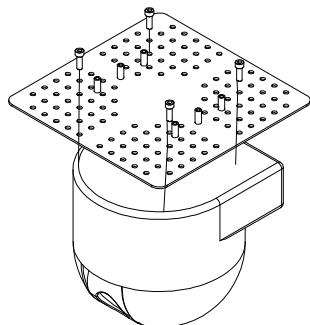

Figure 1
1. Lower the telescopic section of the lift to a height suitable for the installer to install the camera, as shown in Figure 1 Fix the camera on the mounting plate with screws (Note: Make sure that the screws are firmly tightened, and be careful not to accidentally drop the camera!)